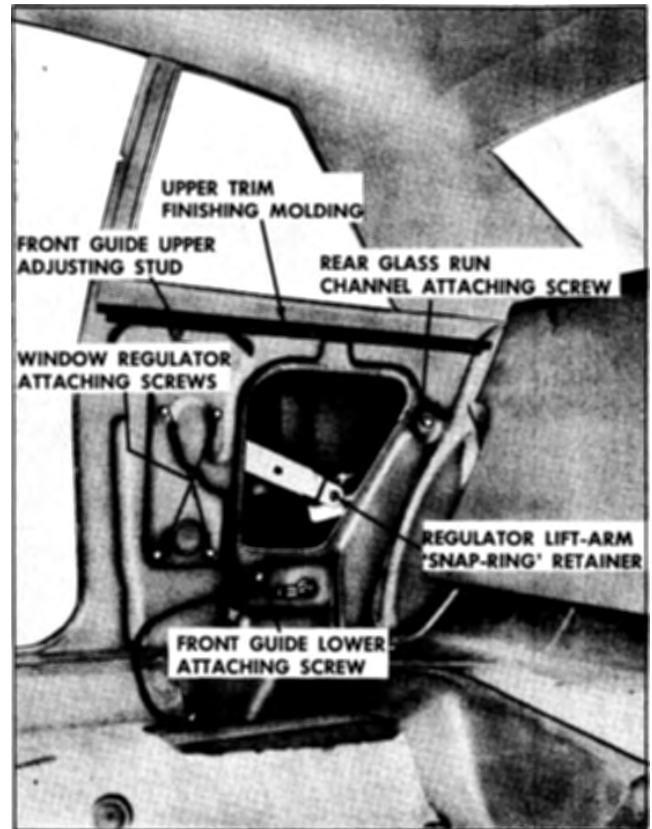

Fig. 13-4 Rear Quarter Hardware - 27 Styles
2. Remove window guide upper adjusting stud and lower attaching screws (Fig. 13-4) and remove guide assembly.
3. With window in half-down position, remove snap-ring retainer securing regulator lift arm to pivot pin (Fig. 13-4).
4. Remove regulator attaching screws (Fig. 13-4) and remove regulator through access hole.
2. With window in full up position, remove guide upper adjusting stud and lower attaching screw (Fig. 13-4). Disengage guide from nylon guide on lower sash channel and remove guide.
2. Remove rear glass run channel attaching screw (Fig. 13-4).
a. Operate window to full up position and loosen window regulator attaching screws (Fig. 13-4).
a. Loosen rear glass run channel attaching screw (Fig. 13-4).